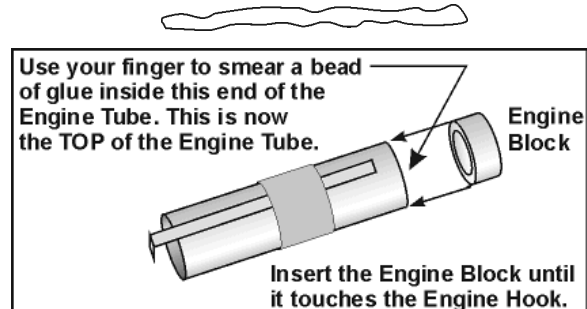

Figure 3
3. **Figure 3** shows you how to glue in the **Engine Block**. (**Thing-a-ma-FACT:** The **Engine Block** blocks the motor to keep it from shooting up into the rocket during flight. A **Bead of Glue** is a wide line of glue, kind of like the drawing below.)